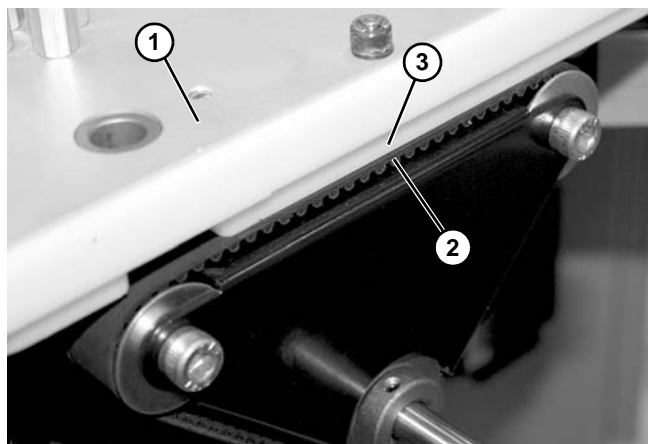

Figure 83
7. Place pallet (**Figure 83, item 1**) on corner assembly. Position corner assembly so that belt (**Figure 83, item 2**) and pallet skirt (**Figure 83, item 3**) line up as shown.